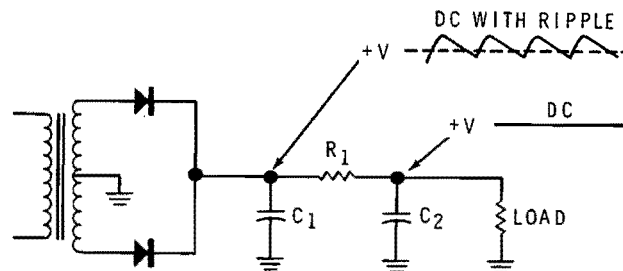

Figure 4-20
Figure 4-20 shows a full-wave rectifier with a resistor-capacitor (RC) filter connected across its output. An RC filter of this type does a much better job than the single capacitor filter. Let's see how this filter works.